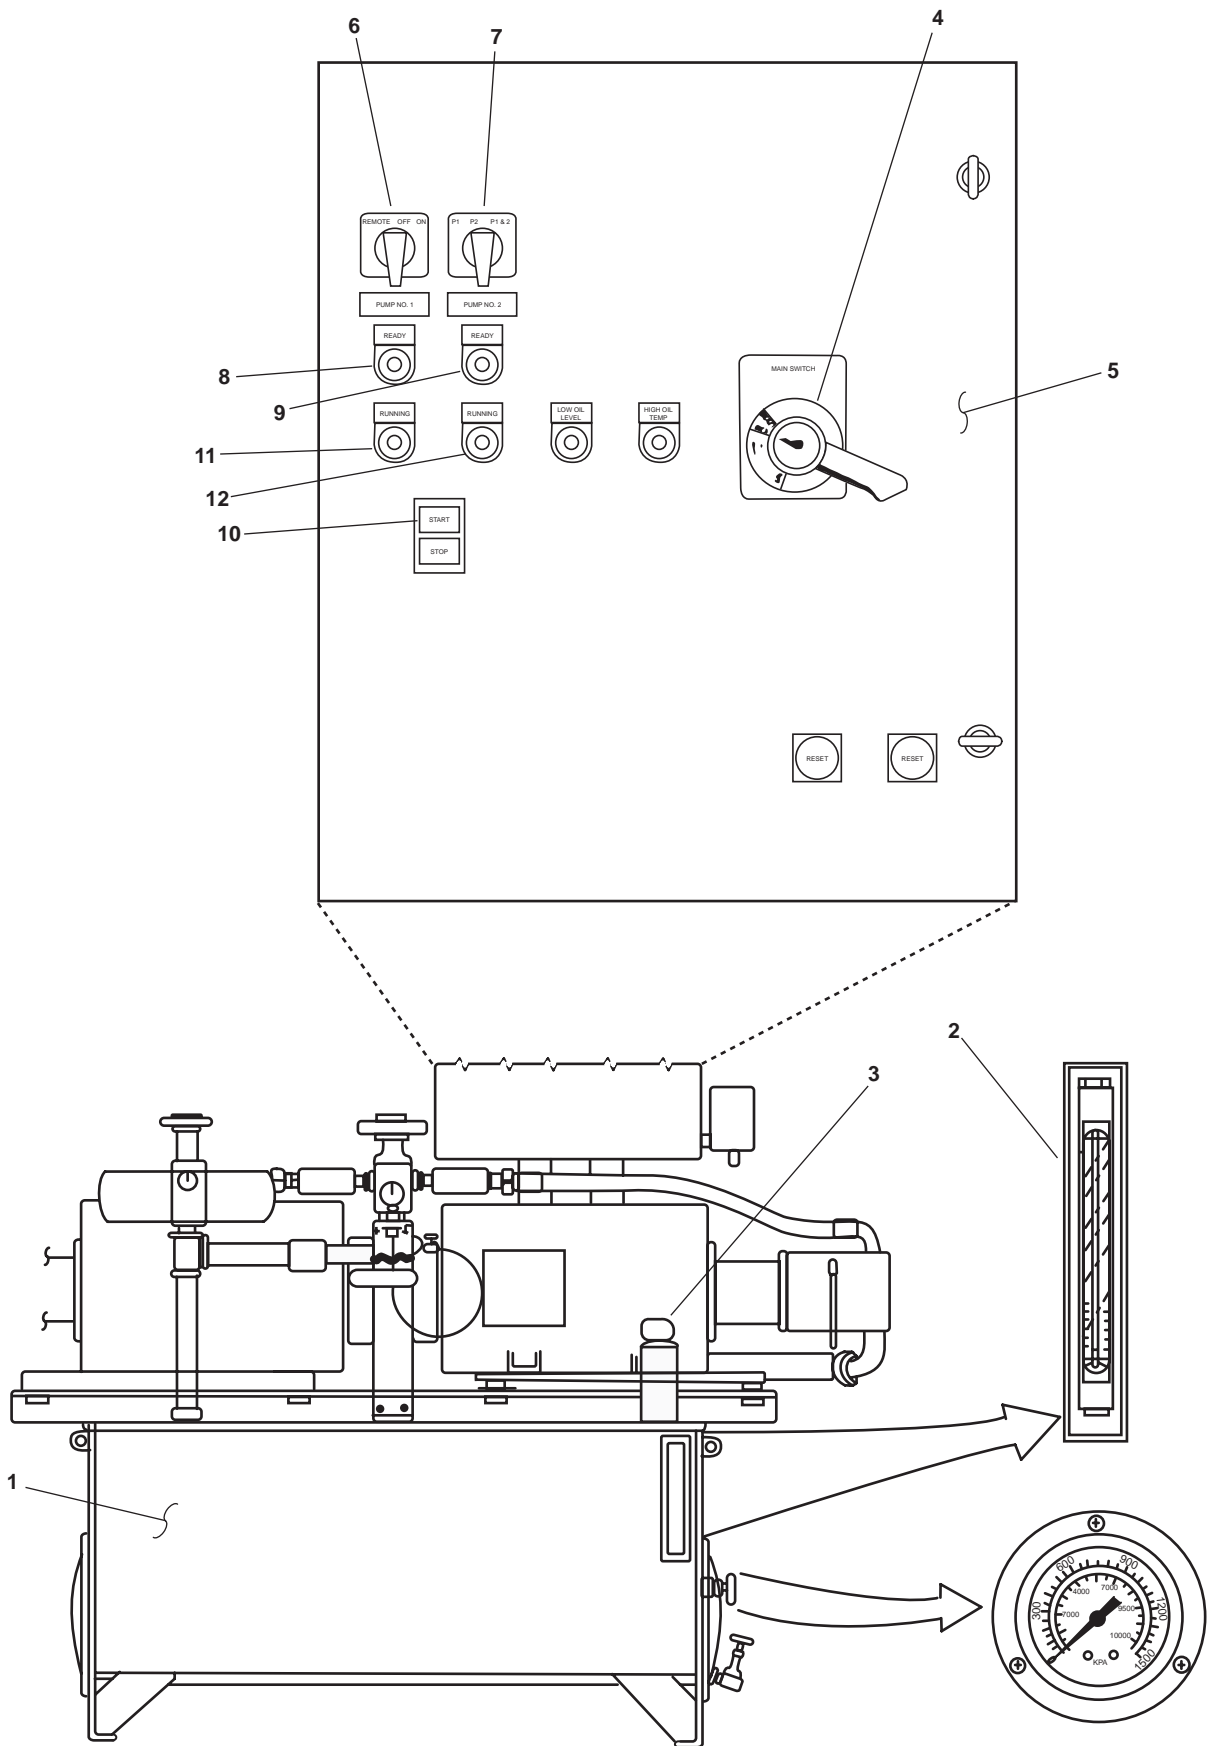
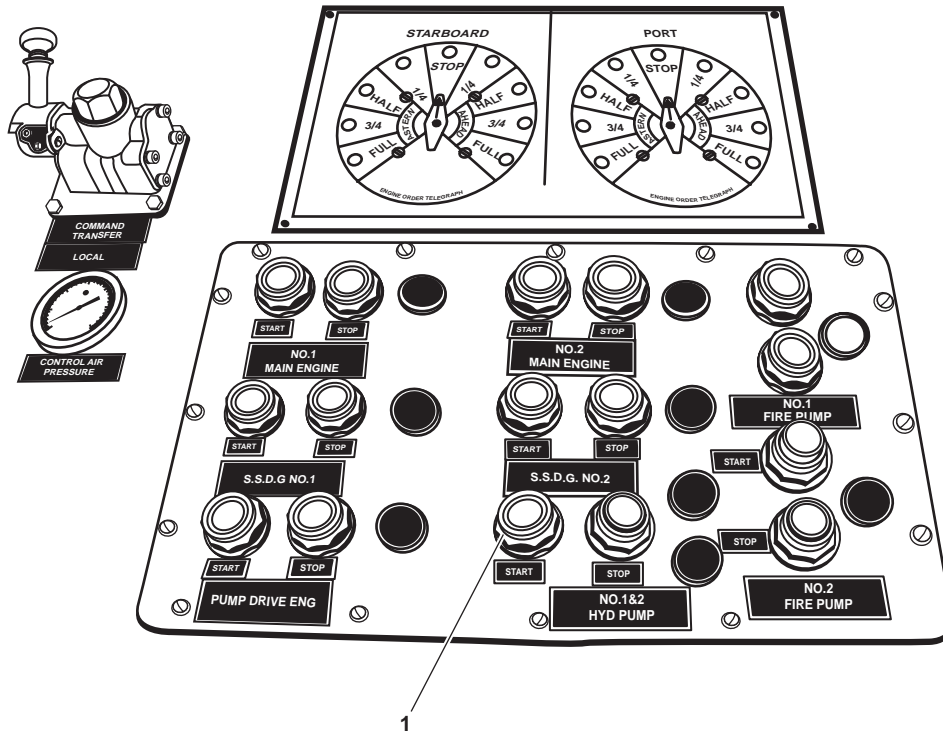

Figure 2. Central Hydraulic System, Hydraulic Power Unit
Figure 4. Remote Control Station (EOS)
5. To enable local operation of the central hydraulic system, set to ON the REMOTE/OFF/ON switch (figure 2, item 6) at the central HPU motor controller (figure 2, item 5). To enable remote operation from the EOS, set to REMOTE the REMOTE/OFF/ON switch.
6. Set the P1/P2/P1 & 2 switch (figure 2, item 7) to the P1, P2, or P1 & P2 position. In the P1 position, pump 1 is enabled; in the P2 position, pump 2 is enabled; and in the P1 & P2 position, both pumps are enabled.
7. Verify that the READY light (figure 2, item 8 and/or 9) is illuminated for the selected pump(s).
8. If local operation was selected in step 5, press the START pushbutton (figure 2, item 10) to start the selected pump(s). If remote operation was selected, press the NO.1 & 2 HYD PMP pushbutton (figure 4, item 1) to start the selected pump(s).
9. Verify that the RUNNING indicator(s) (figure 2, items 11 and/or 12) are illuminated for the selected pump(s).